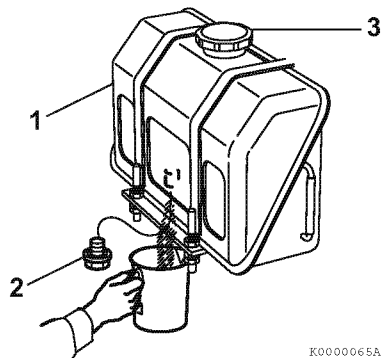

Fig. 00-45
1. Place an approved container under the diesel fuel tank (1, Fig.00-45) to collect the contaminants.
2. Remove the fuel cap (3, Fig.00-45).
3. Remove the drain plug (2, Fig.00-45) of the fuel tank to drain the contaminants (water, dirt, etc.) from the bottom of the tank.